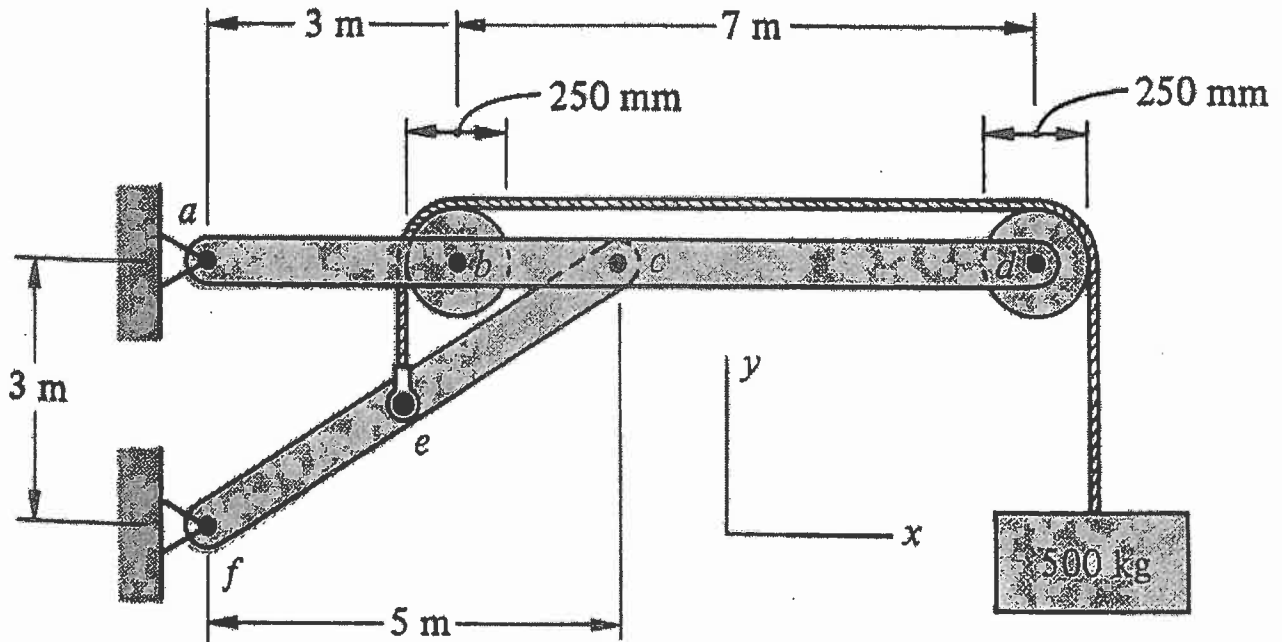

FIGURE 1.
- I. Find the forces acting on all of the pins of the frame shown in figure 1. Each of the pulleys has a mass of 75 kg and may be assumed to be frictionless.